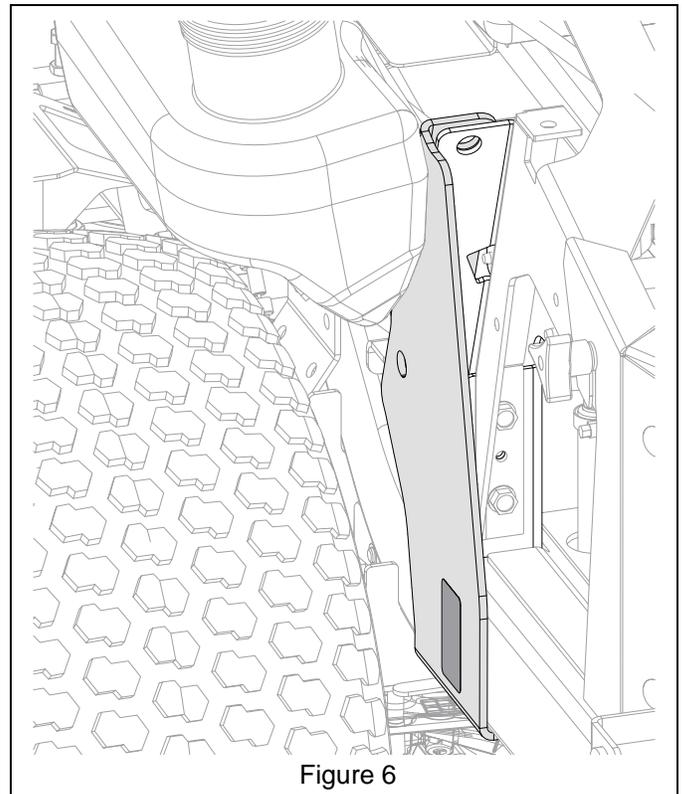

Figure 6
6. From above unit, position bracket on frame. It may be necessary to move the fuel tank filler slightly to provide clearance. See Figure 6.